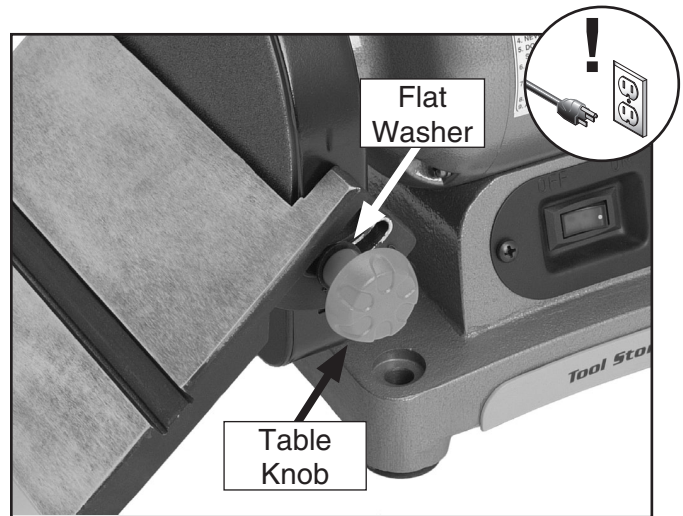

Figure 4. Installing disc table.
1. Attach the table as shown in **Figure 4** with the included knobs and washers.